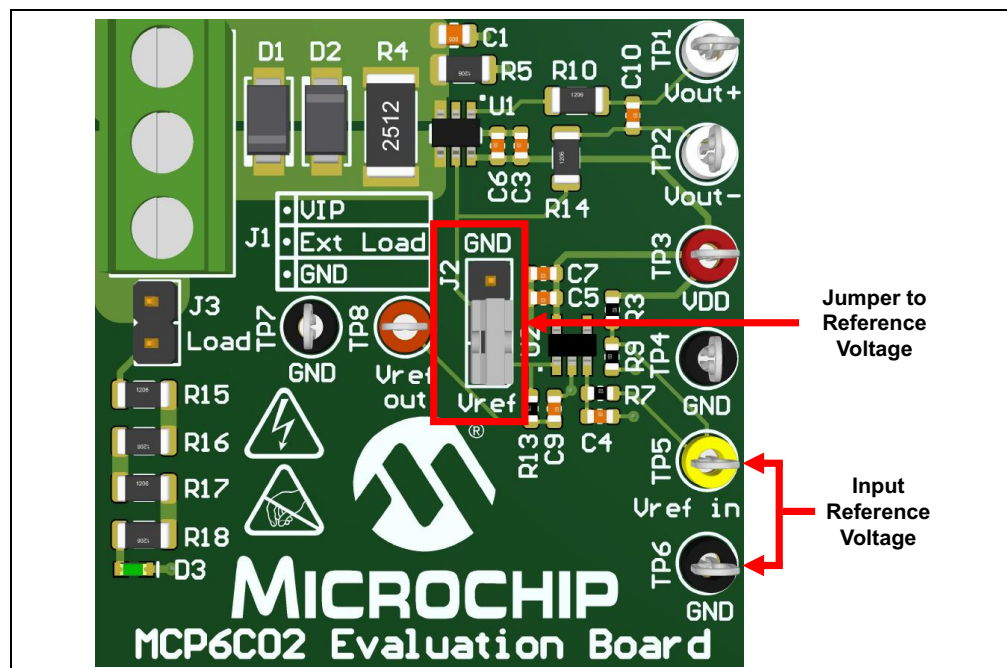

FIGURE 2-4: Using V_{REF} .
- Connecting a jumper at J2 to the V_{REF} pin, as seen in Figure 2-4, selects the reference voltage supplied by the user.
- Connecting a jumper at J2 to the GND pin selects ground as the reference voltage. See Figure 2-4.